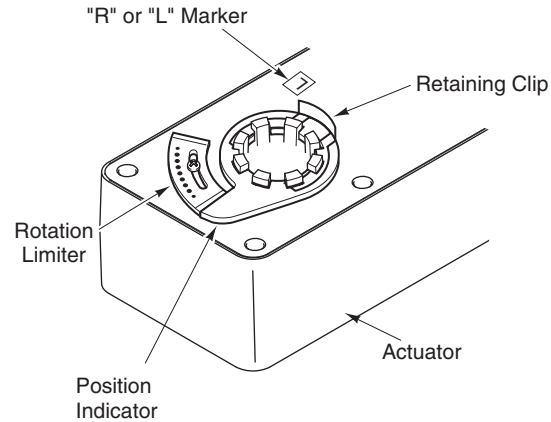

Figure-3 Installation of AM-689 Rotation Limiter.
- Place the position indicator on the actuator as shown in Figure-3. Secure it in place using the retaining clip provided.